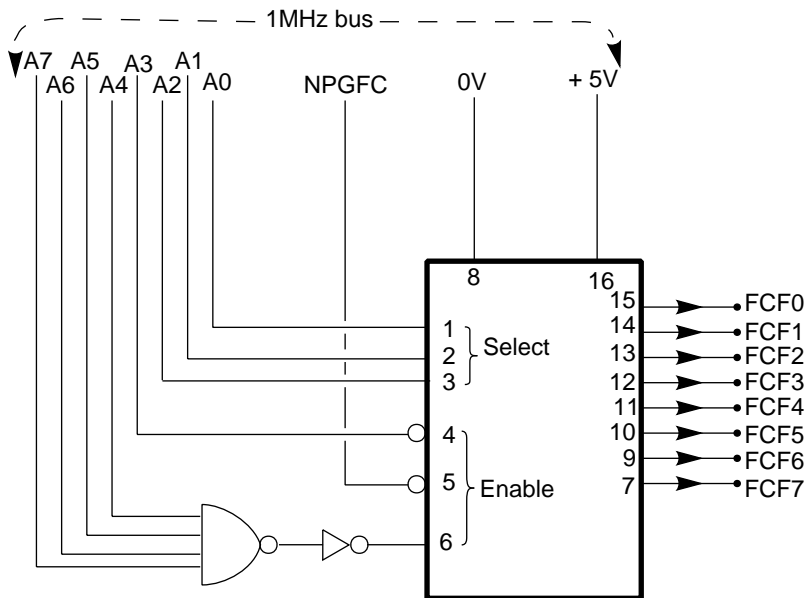
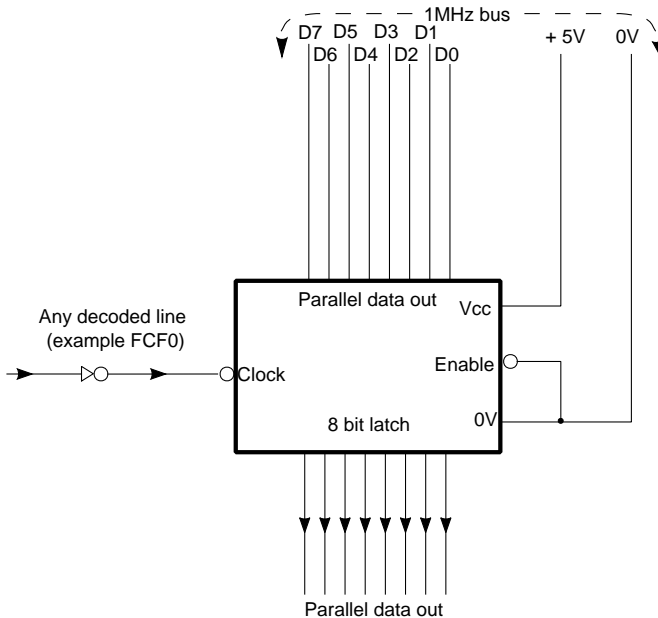

Fig. 1.6. Selecting any one of eight devices.
Fig. 1.7. An 8-bit latch as an example of a device.
If there are several different devices, each one must have an associated code acting as an identifier. This code will be the device 'address'. The 1 MHz bus is equipped with address wires A0 to A7 which can be tapped for supplying the two least significant hex digits of the address. The two most significant hex digits have already been decided for us since the 1 MHz bus is restricted to page FC for device control. As explained previously, the line marked NPGFC is available on the bus to enforce this page. There are 256 different address codes possible on one page according to the binary pattern set up on A0 to A7. That is to say, the address range of our page FC extends in theory from &FC00 to &FCFF. However, we should restrict the coding of our special devices to the small band set aside for User Applications, &FCC0 to &FCFE. It is comforting to know that decoding A0 to A7 is easily achieved by special decoder chips available in the 74 series. These decoders are general purpose but skilfully designed for slipping neatly into a variety of systems. Figure 1.6 shows a possible hook up for driving any one of eight devices.
for those who intend to design their own add-on boards, so the following step-by-step explanation of Fig. 1.6 is worth studying carefully. The explanation is limited to one of the outputs (pin 15) labelled as address FCF0:
Although Fig. 1.6 has been built around the addresses &FCF0 to &FCF7, we could have chosen any other set of eight contiguous addresses in Fred's user application band (&FCC0 to &FCFE). For example, suppose for some reason we wished to position the decoder in the eight addresses &FCE0 to &FCE7. The third hex digit would now be E (binary 1110) instead of F (binary 1111). The only change, therefore, would be a logic 0 on address line A4 instead of a logic 1. Thus the circuit remains the same except for one extra inverter in between A4 and the NAND gate.
Note from Fig. 1.6 that the data bus is not involved. Switching on the selected advice is simply a case of mentioning the address in a machine code instruction; any data transfers by READ or WRITE action are incidental to device action. We could say that the device is 'address' rather than 'data' driven.
Some devices only require a single logic line to activate them (simple lamp or electric motor). Others, may require a number of data lines as, for example, an 8-bit digital to analogue converter. Driving such devices would involve the data bus as well as the address bus. As far as address decoding is concerned, we could enable the device from any one of the outputs in Fig. 1.6 or, in fact, up to eight separate ones if the necessity arises. Figure 1.7 shows how the device-select action is combined with the data bus.
An 8-bit latch is a kind of *buffer* between the data source (in this case the data bus) and the device which requires it. The device only accepts the data when a terminal called the clock changes state. Because the clock input in Fig. 1.7 has a bubble, clocking the data takes place when the change is from logic 1 to logic 0. In the quiescent state (device not yet selected) the parallel data out is that which remained from the last time the latch was clocked: it is 'historic' data. However, whenever &FCF0 is addressed (goes from logic 0 to logic 1), the inverter in the line causes the clock to go from logic 1 to logic 0. The information on the data bus then passes through to the parallel output lines. To summarise: when &FCF0 is addressed, the device immediately receives new information from the data bus, *overwriting the* previous information. As a matter of interest, the machine code line to place the contents of the accumulator into the output lines is:
Although the BBC machine is not equipped with a digital to analogue converter, it is easy to hook one on the 1 MHz bus. There are several types available so the diagram contains only sufficient detail for the understanding of the system. The diagram shows the data bus directly connected to the D/A converter and enabled by one of the decoded addresses. This, of course, could be one of the lines from a 74LS138 (as shown earlier in Fig. 1.6). An instruction to produce analogue output could be:
- 1.15 With reference to Fig. 1.7, assume the data bus is 4F hex and the latch output is also 4F. Supposing the data bus now changes to 5F, what is the output from the latch prior to the arrival of the clock pulse?